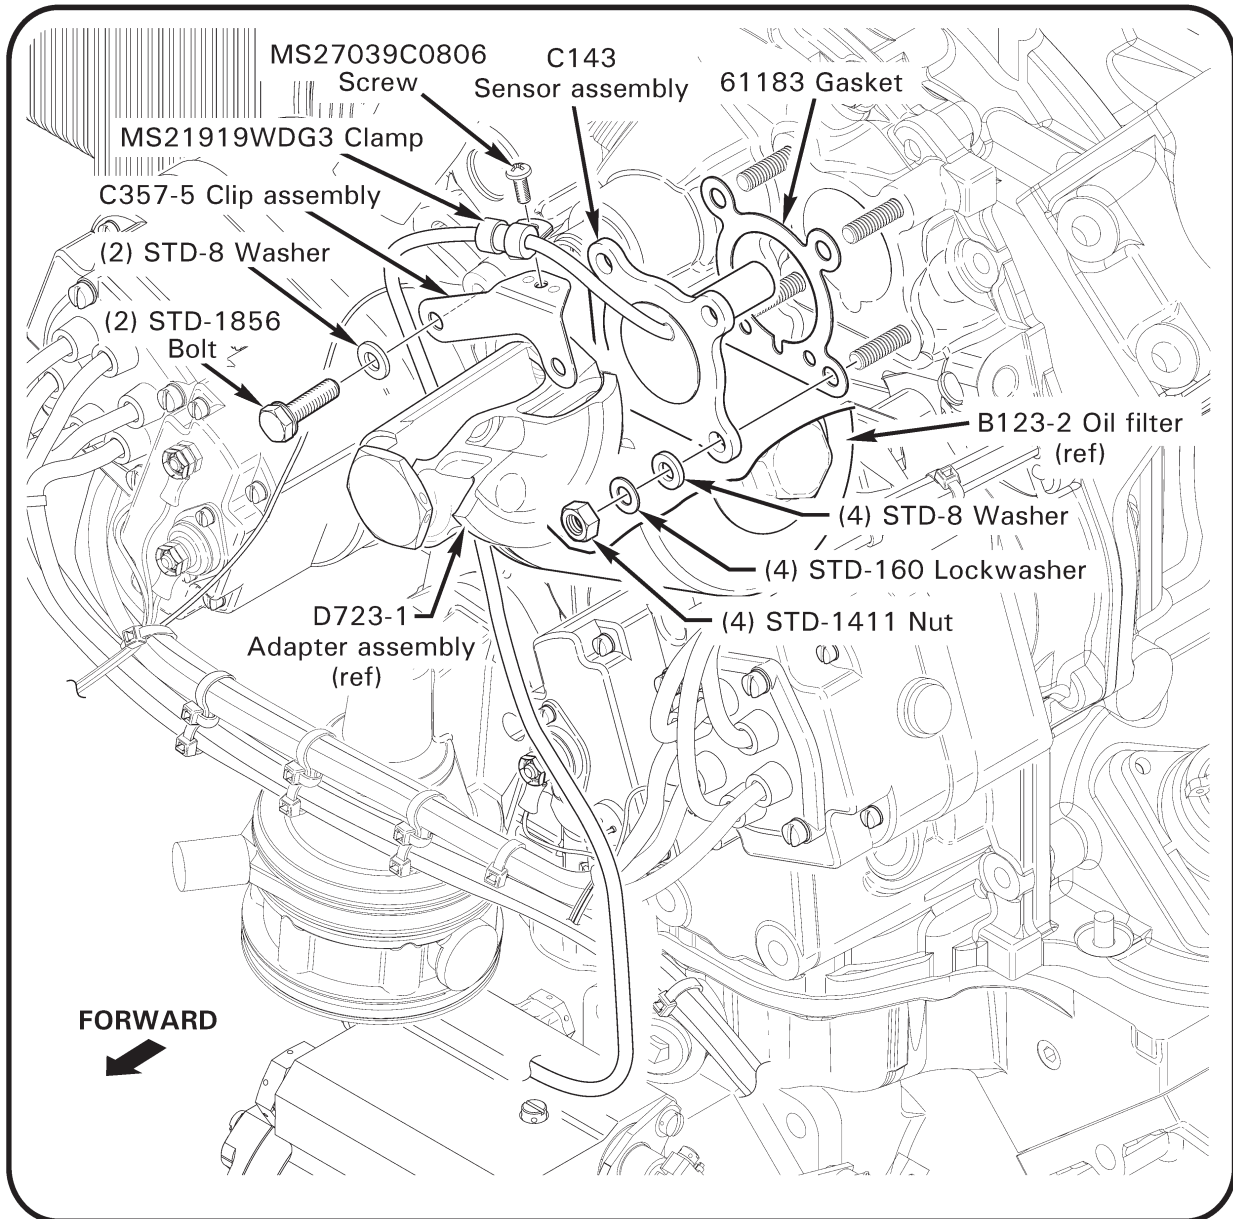

FIGURE 2 Sensor assembly installed on engine
6. Refer to Figure 2. Remove C143-2 sensor from engine. Recent helicopters have an MS21919WDG3 clamp securing sensor harness to oil filter housing; as required, remove oil filter and disconnect clamp. Remove gasket. Temporarily cover engine openings. Discard (4) internal teeth lockwashers.
15. Refer to Figure 2. Remove temporary covers from engine openings. Using new 61183 gasket and (4) new STD-160 lockwashers, install C143-2 sensor on engine with engraved “UP” at top. Torque nuts to 96 inch-pounds. As applicable, attach clamp to sensor harness. Secure clamp to clip with screw. Install oil filter.